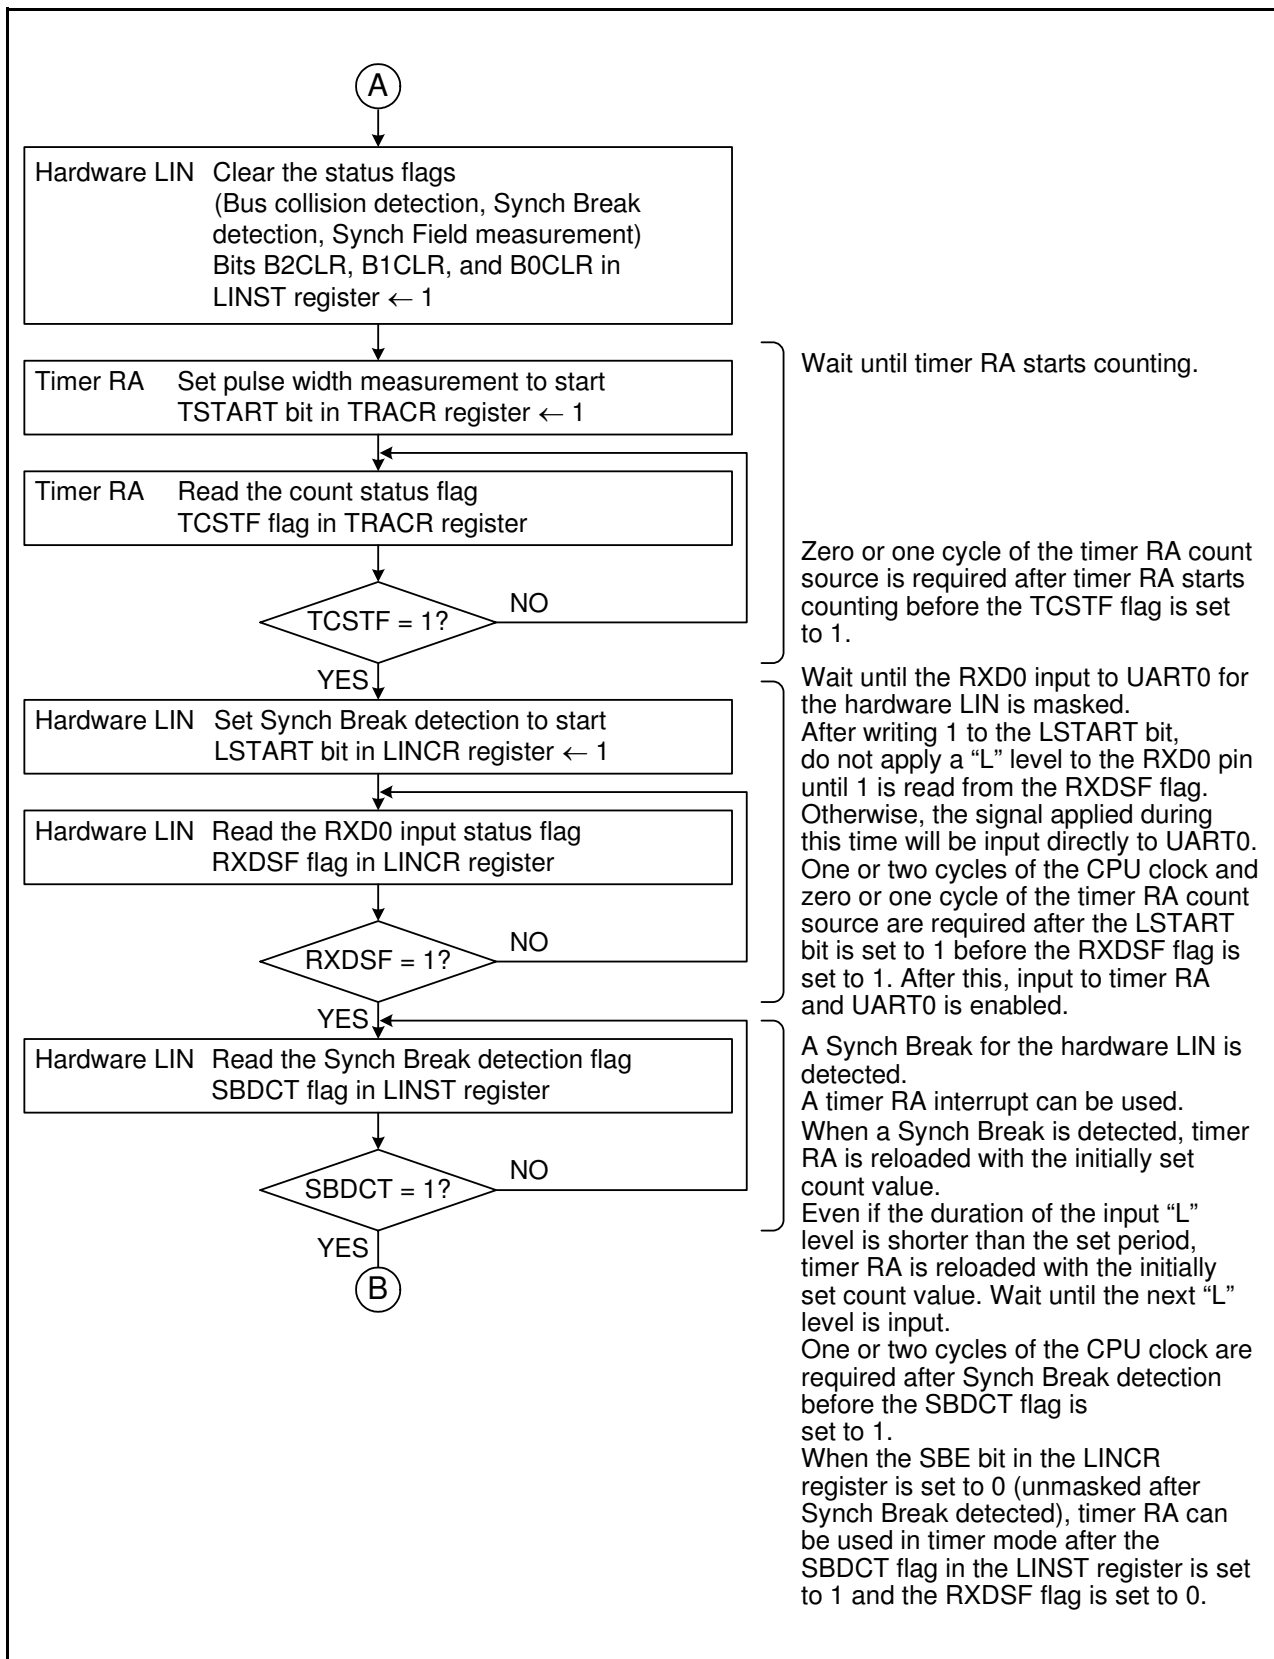

Figure 28.7 Header Field Reception Flowchart Example (2)
3. Inputs to timer RA and UART0 are disabled immediately after the LINE bit is set to 1 (LIN operation starts). (Refer to **Figure 28.3 Header Field Transmission Flowchart Example (1)** and **Figure 28.7 Header Field Reception Flowchart Example (2)**.)